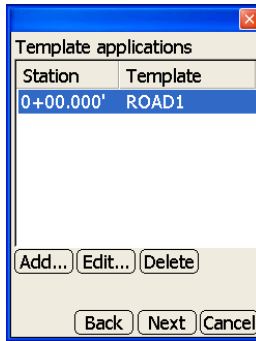

Figure 2-27. Template Applications Dialog Box
19. Repeat steps 16 and 17 on page 2-17 for each template application. After entering all desired template applications, press **Next** to continue (Figure 2-27).